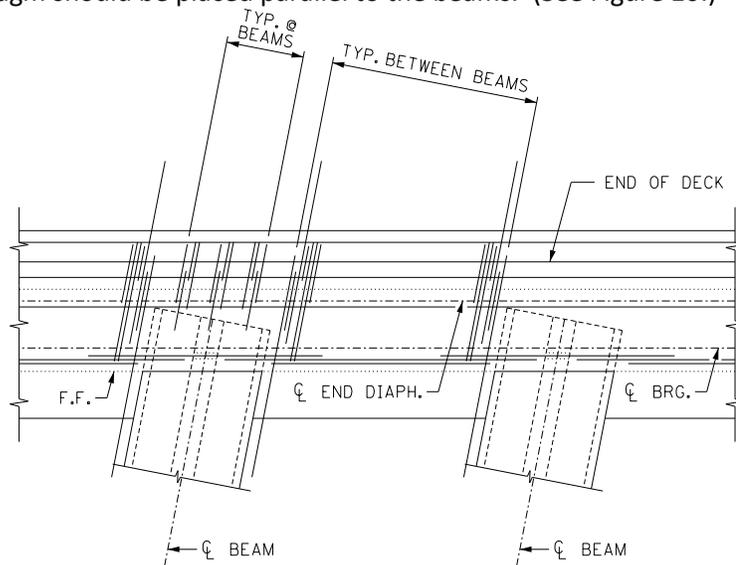

Figure 10
2. When detailing concrete end diaphragms for integral, semi-integral, or parapet abutments, the bars that are transverse to the diaphragm should be placed parallel to the beams. (See Figure 10.)